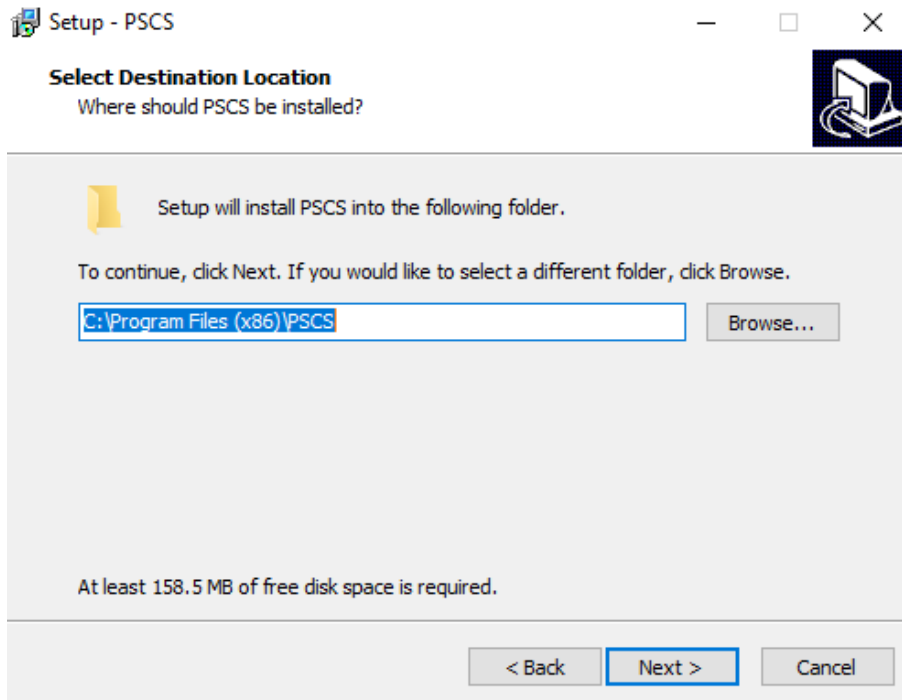

Figure 7.5
5. Select a destination location for the software. Figure 7.5